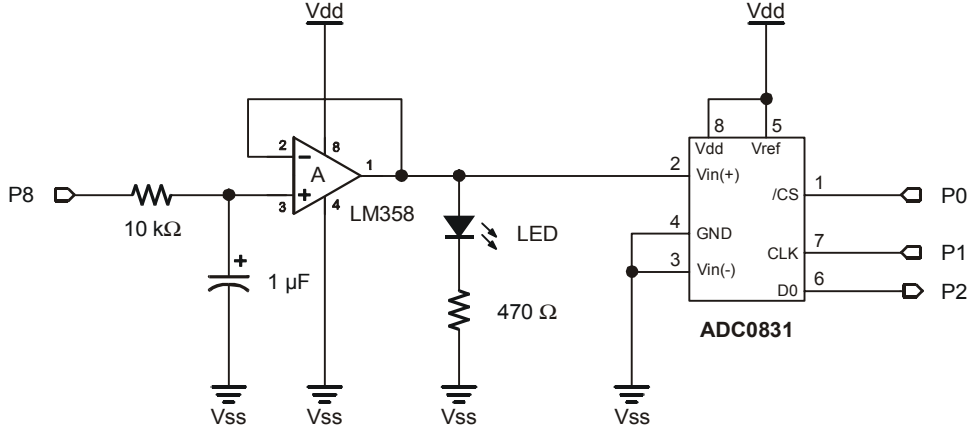

Figure 7-8: PWM DAC with Op-amp Buffer and a Load
Place a voltage follower in between the D/A output and the LED circuit input as shown in Figure 7-8, then run Program Listing 7.1 again.
4. Write a program that tells you the measured resistance value of the photoresistor from Figure 7-8. Hint: Apply the voltage divider equation and use the existing DVM program. You will need to modify the `Calc_Volts` and `Display` subroutines.